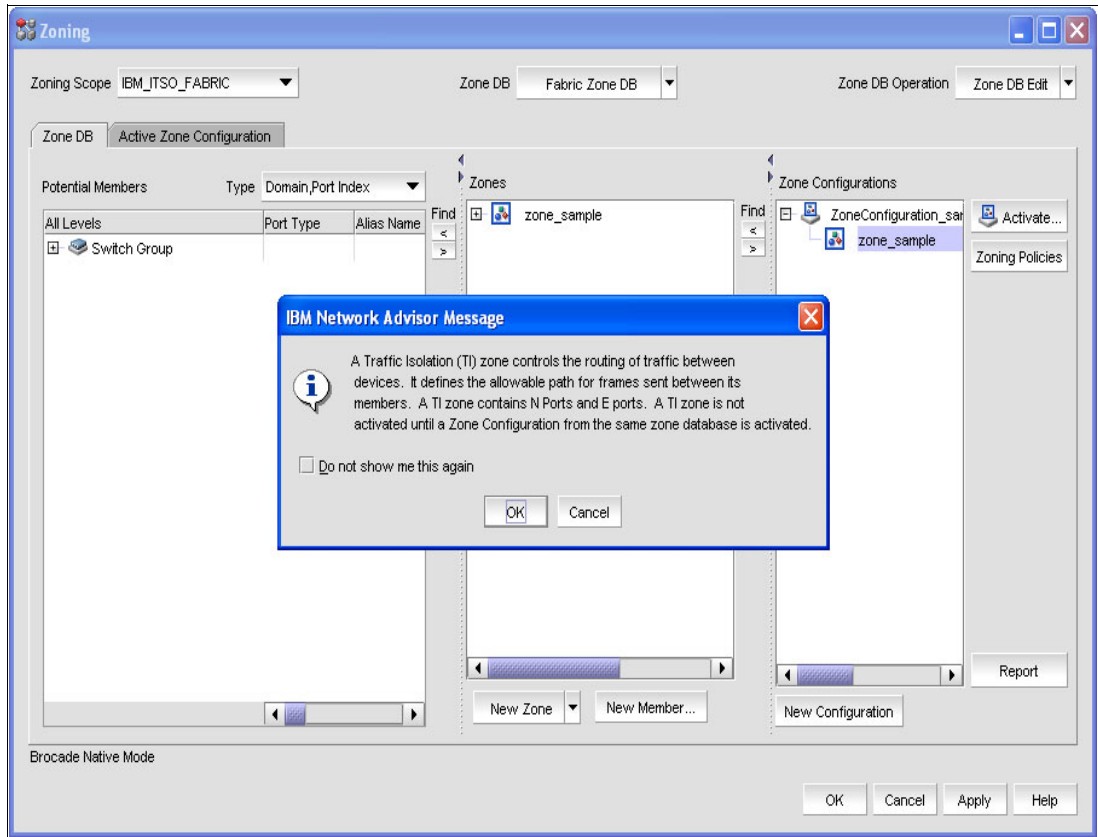

Figure 8-58 TI zoning setup
2. Add both sides of the ISL or trunk (E\_Port) and also F\_Ports to the new TI zone, which should be named with TI at the beginning of the zone name. The TI zone will not be included in the Zone Config on the right side of the Zoning window (see Figure 8-58 on page 300).